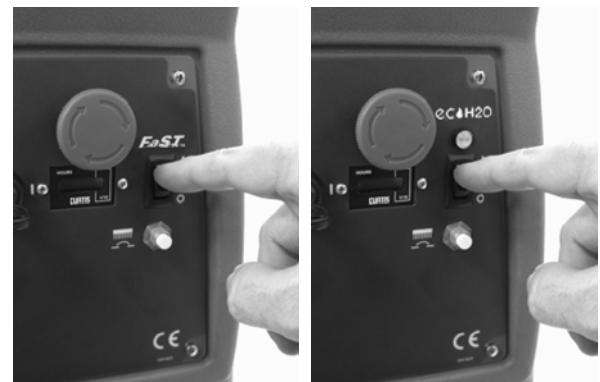

FIG. 14
3. **FaST Model:** To foam scrub, press the FaST system switch to the on (I) position (Figure 14).
- ec-H2O Model:** Press the ec-H2O system switch to the on (I) position (Figure 14).